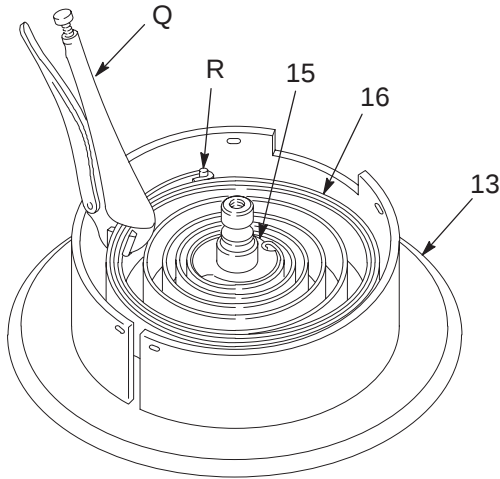

Fig. 11 1647
Always use locking pliers (Q) to compress and hold several rows of the spring together when removing and installing a spring. See Fig. 11.
If either end of the spring (16) is worn or damaged and does not hook properly on the reel hub (15) or the pin (R) which is welded to the inside of the lower reel flange (13), replace the spring. See Fig. 11. If the pin is broken, the lower reel flange must be replaced.
To remove the spring, use a locking pliers (Q) to compress several rows of the spring together. Then lift out the spring. See Fig. 11.
To ensure proper spring operation, the spring and reel hub must be installed with the inside end of the spring hooked into the reel hub (15) and the outside end of the spring hooked to the pin (R). See Fig. 11 on page 23.